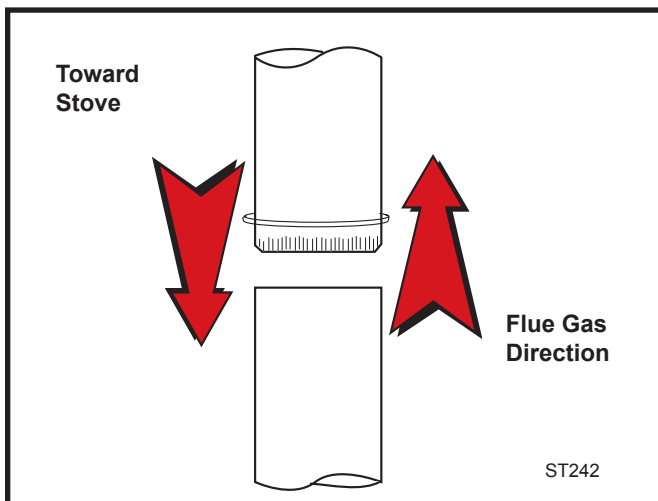

Fig. 5 Crimped sections always point toward the stove so that any liquid condensation will not leak out.
1. Insert the crimped end of the first section into the stove's flue collar, and keep each crimped end pointing toward the stove (Fig. 5). Using the holes in the flue collar as guides, drill 1/8" (3 mm) holes in the bottom of the first section of chimney connector and secure it to the flue collar with three #10 x 1/2" sheet metal screws.